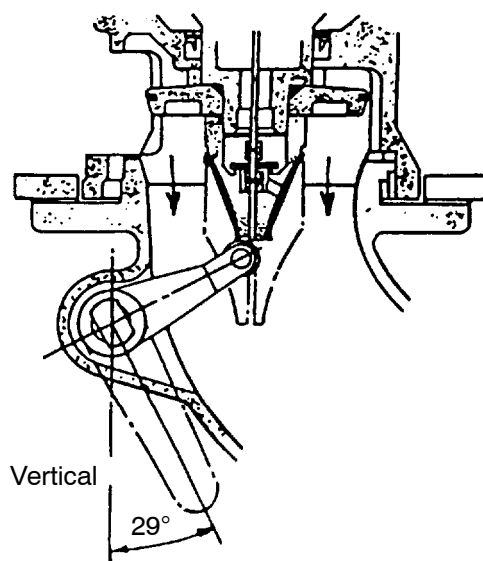

Fig 4.5 Off-loading
- 15.1 Off-loading of the tank is achieved by the operation of the external manual lever to its fullest extent to fully open the foot valve (Fig 4.5).